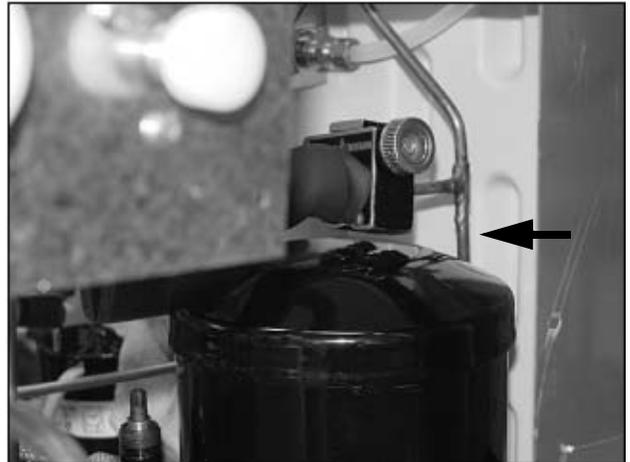

Figure 39. Unit Rear
38. Secure the insulation away from the joint and braze the high side service line into the Heat Exchange Suction Line assembly (Figure 39).